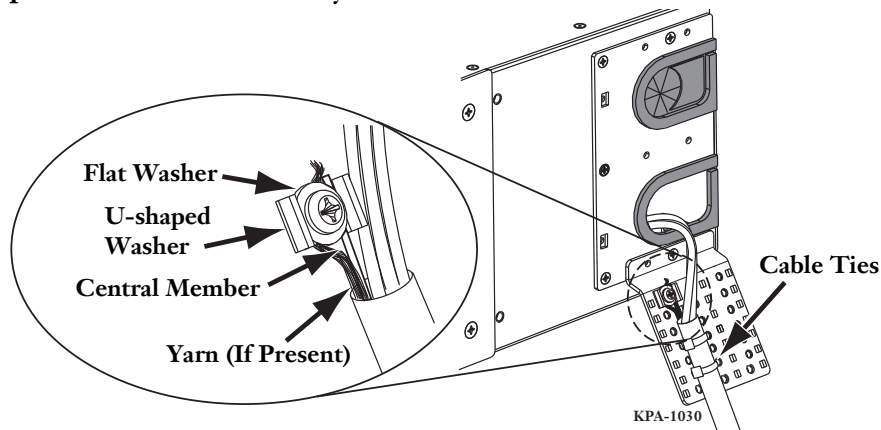

Figure 8 — Strain-relieve Central Member
Step 1: Attach the cable tie to the strain-relief bracket in two places with cable ties as shown in Figure 8.
- Step 1:** Install the U-shaped washer and the flat washer on the strain-relief bracket in the orientation shown using the supplied Phillips-head machine screw (Figure 8).